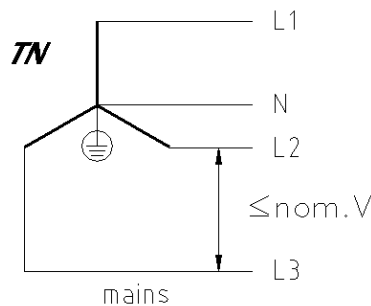

Fig. 8
The slip ring unit is suitable for use with earth referenced electric supply system (TN). An isolating transformer (secondary star-connected, with earthed neutral) is always required for networks that are asymmetrically grounded or not grounded (Fig. 8). Insulation among the phases inside the slipring is designed for a maximum voltage lower or equal to the nominal one (690V).